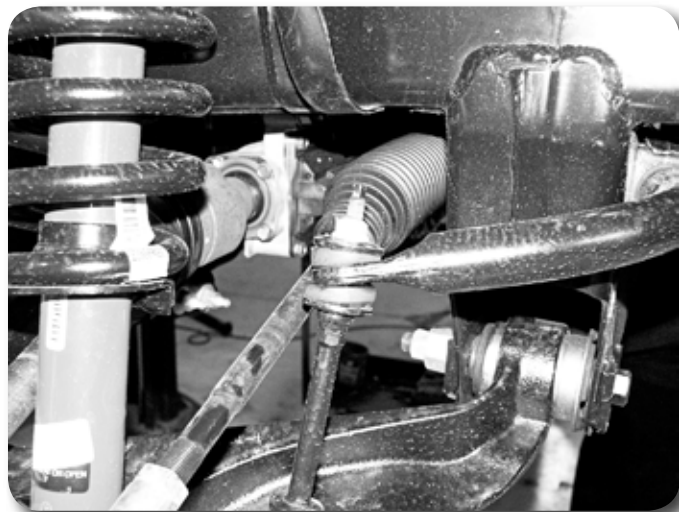

Figure 1
4. Remove sway bar nut from the sway bar links at the sway bar, remove bushings and cup washers. Fig 1